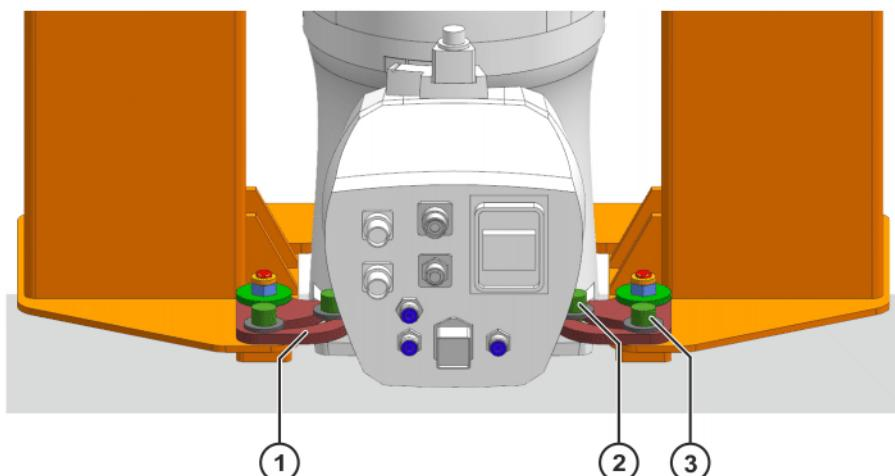

Fig. 8-4: Positioning and fastening the swivel holders
6. Position swivel holders on base frame (**>>> Fig. 8-4**).